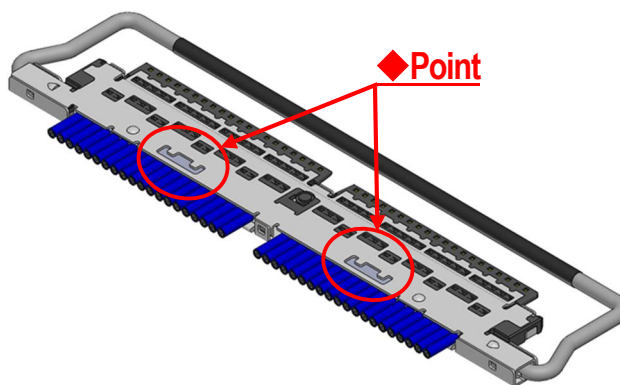

Fig.8 Soldering of Shell-B and Ground Bar
- ③ Soldering shell-B and ground bar with the soldering iron at all designated points is recommended. (Fig.8 ◆ point)